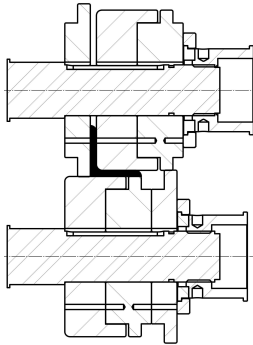

Figure-1
Adjust the rolls for leg-in bending as shown in figure-1. The top roll safety flange must **NOT** be too tight or the material will wave. Both radial (Y) and axial (X) rollers of the guide roller must be touching the material end. (figure-2) adjust the rolls so that a diameter 5% smaller than the necessary diameter can be achieved. This is necessary for the ends of the material to meet at the end of a full circle bending. The radial (Y) must be forcing the material at all steps of bending. (figure-3) the axial rollers (X) must be used to correct the feed direction. If the material is tending to go towards the machine the axial rollers (X) must be pushed more. If the material is tending to bend away from the machine then one of the axial rollers (X) must be pushing too hard. It must be relieved. figure-1 is a set up position for a standard leg-in material. Although you can bend most leg-in materials with standard rolls we recommend you special rolls for serial jobs.